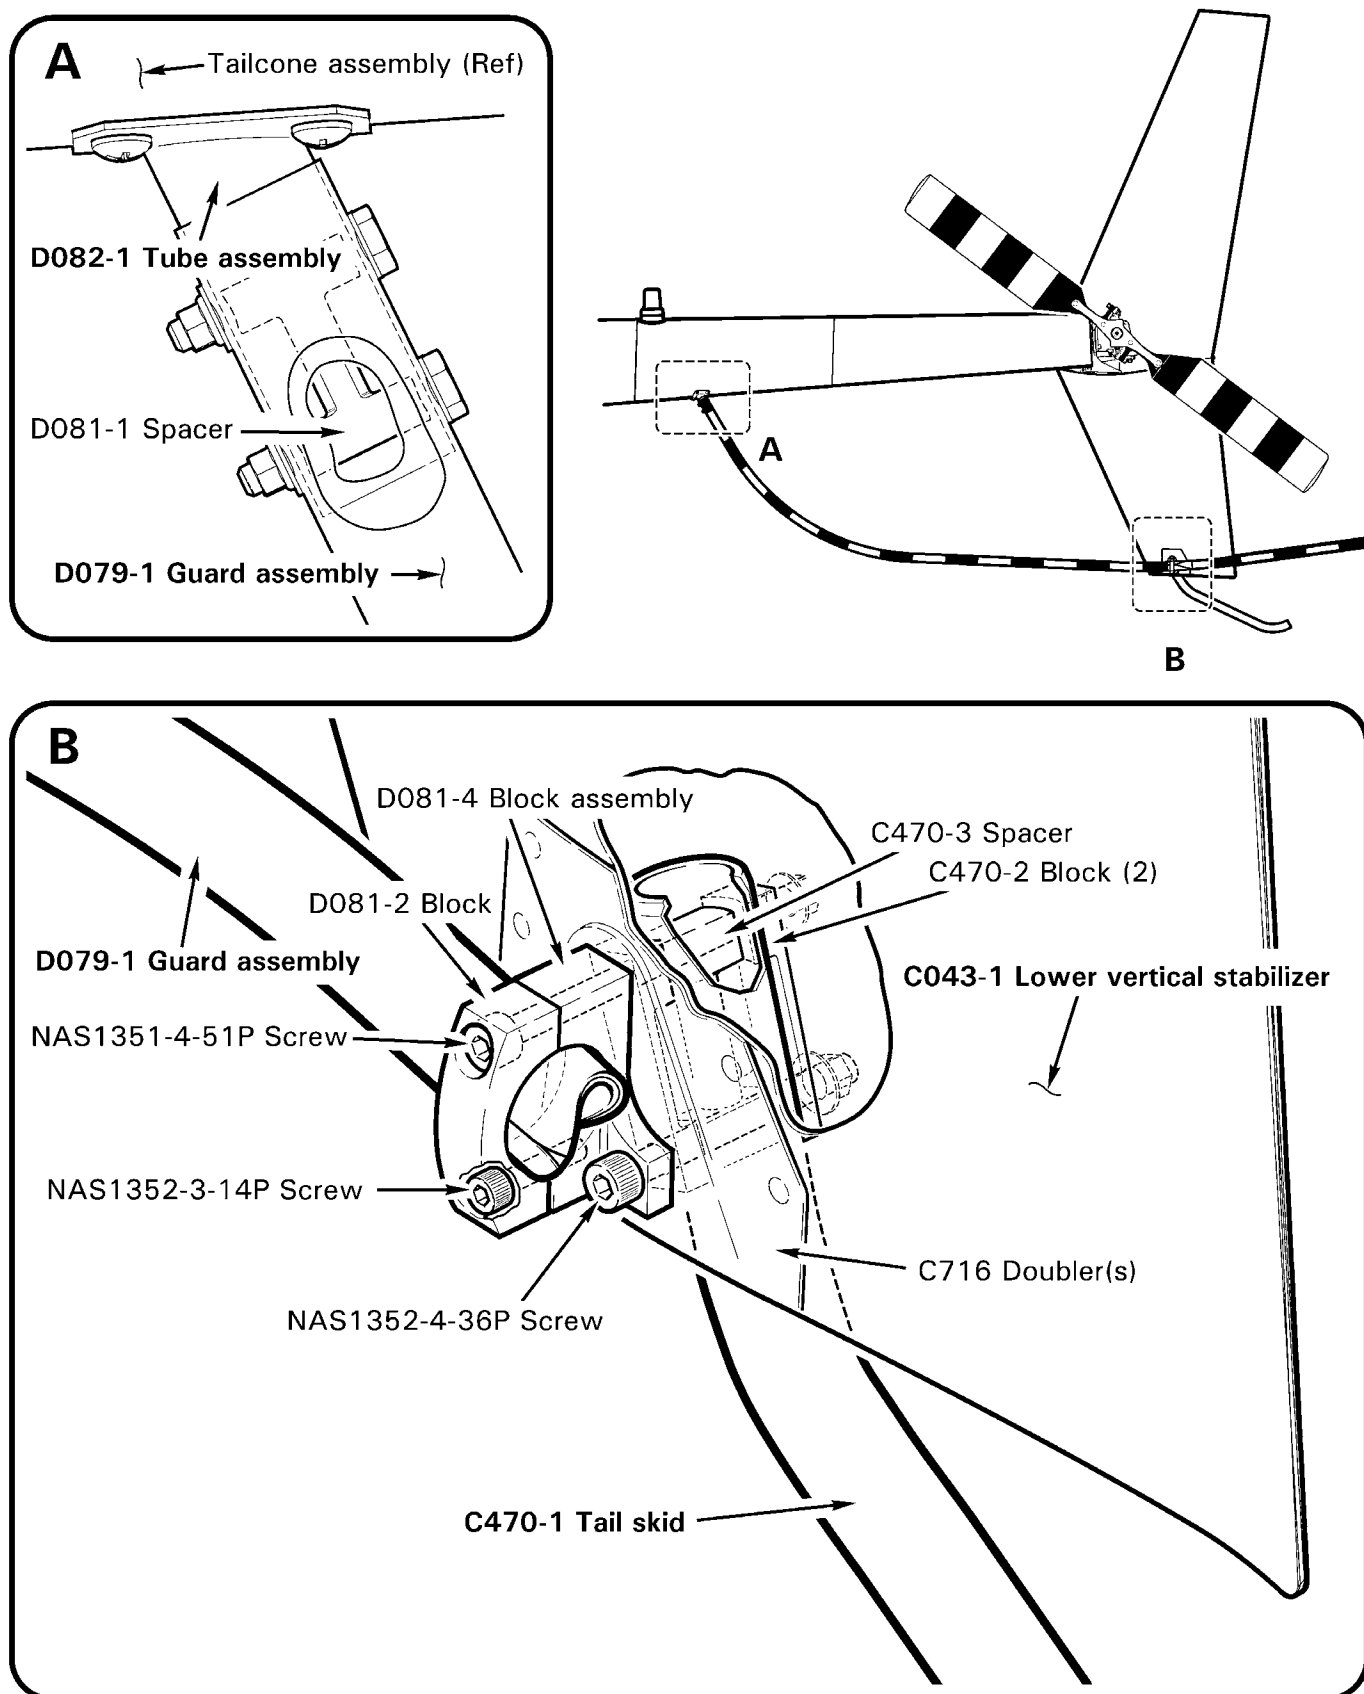

FIGURE 4-6 EMPENNAGE - TAIL ROTOR GUARD
1. Refer to Figure 4-6. Loosen two (forward) fasteners securing D081-2 block and D079-1 guard assembly to C043-1 lower vertical stabilizer.
1. Refer to Figure 4-6. Loosen two (forward) fasteners securing D081-2 block to C043-1 lower vertical stabilizer, if not previously accomplished. Insert D079-1 guard assembly aft through blocks.
1. Refer to Figure 4-6. Support D079-1 guard assembly. Remove two (forward) fasteners securing D081-2 block and guard to C043-1 lower vertical stabilizer. Remove block.
1. Refer to Figure 4-6. Install C470-3 spacer inside C470-1 tail skid. Install tail skid and two C470-2 blocks inside C043-1 lower vertical stabilizer. Install D081-4 block assembly, and hardware securing block and tail skid assemblies to vertical stabilizer. Standard torque screw per Section 1.320, and torque stripe per Figure 2-1.